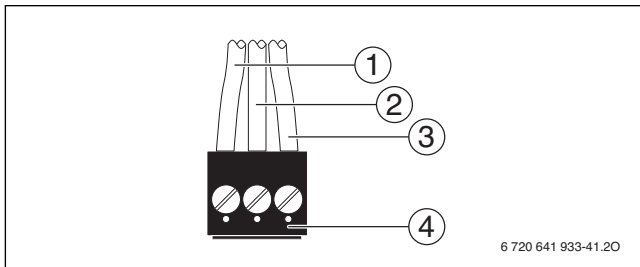

Fig. 54 Attach plug (external pump)
- Connect cable to **the black plug** according to Fig. 54.